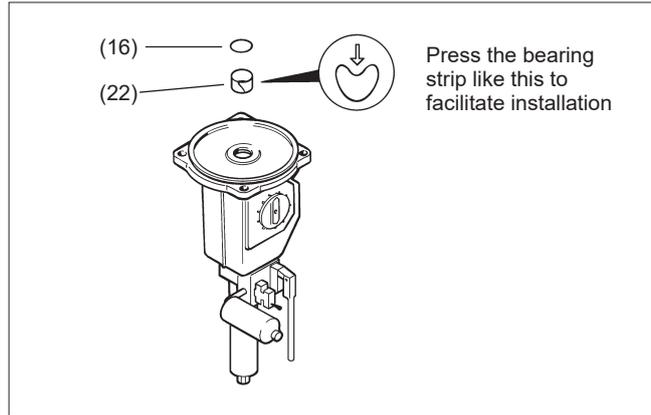

Fig. 17 Mounting the piston rod bearing and seal
- Remove the O-rings (16, 16a) and the bearing (22). Clean the seal space.
- Lubricate the seal space and the new O-rings (16, 16a) with Unisilikon L250L or Molykote III. Install the new bearing (22) and O-rings (16, 16a). See Fig. 17.